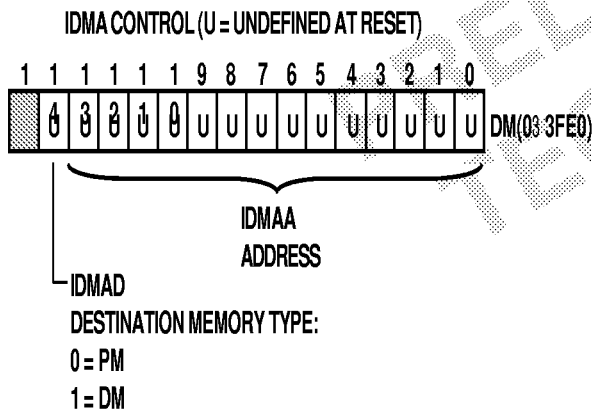

Figure 19. IDMA Control/OVLAY Registers
Through the IDMAA register, the DSP can also specify the starting address and data format for DMA operation. Asserting the IDMA port select (IS) and address latch enable (IAL) directs the AD73522 to write the address onto the IAD0–14 bus into the IDMA Control Register. If IAD[15] is set to 0, IDMA latches the address. If IAD[15] is set to 1, IDMA latches OVLAY memory. The IDMA OVLAY and address are stored in separate memory-mapped registers. The IDMAA register, shown below, is memory mapped at address DM (0x3FE0). Note that the latched address (IDMAA) cannot be read back by the host. The IDMA OVLAY register is memory mapped at address DM (0x3FE7). See Figure 19 for more information on IDMA and DMA memory maps.